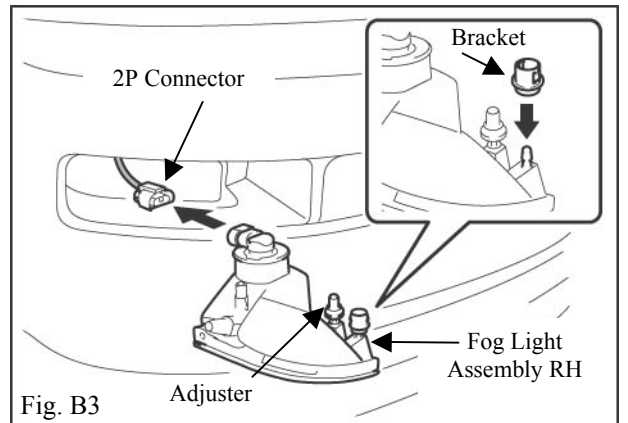

Fig. B3
5. Connect the 2P connector to fog light assembly RH. (Fig. B3)
6. Be sure adjuster is backed out far enough to engage properly in bumper. (Fig B3)